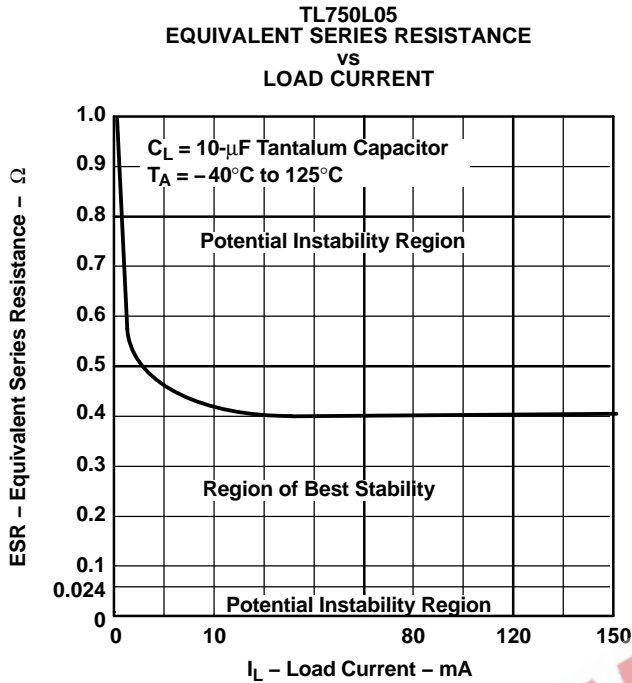

Figure 1.
- (1) Stresses beyond those listed under "absolute maximum ratings" may cause permanent damage to the device. These are stress ratings only, and functional operation of the device at these or any other conditions beyond those indicated under "recommended operating conditions" is not implied. Exposure to absolute-maximum-rated conditions for extended periods may affect device reliability.
- (2) The transient input voltage rating applies to the waveform shown in Figure 1.
The TL750L, TL751L series are low-dropout regulators. This means that capacitance loading is important to the performance of the regulator because it is a vital part of the control loop. The capacitor value and its equivalent series resistance (ESR) both affect the control loop and must be defined for the load range and temperature range. Figure 1 shows the recommended range of ESR for a given load with a  $10\text{-}\mu\text{F}$  capacitor on the output.